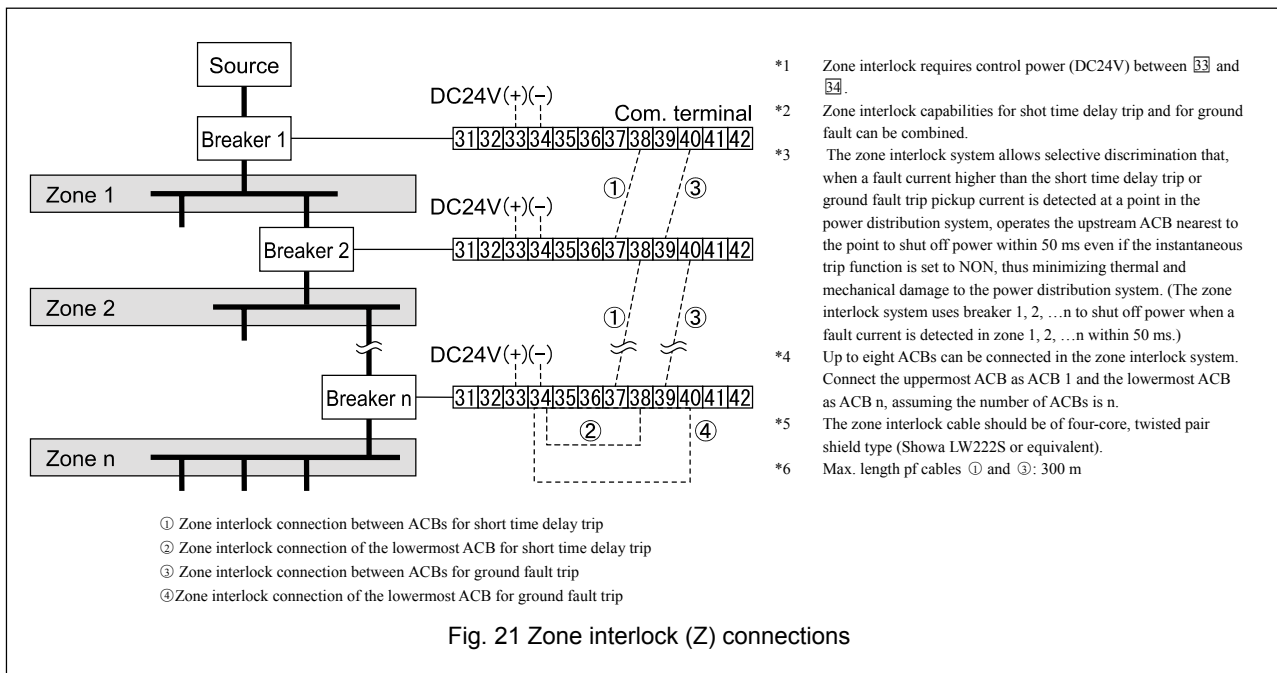

Fig. 21 Zone interlock (Z) connections
Fig. 21 shows how to connect ACBs when the overcurrent release (OCR) is provided with the zone interlock (Z) capability. See Fig. 17 for other circuits than that of the zone interlock.